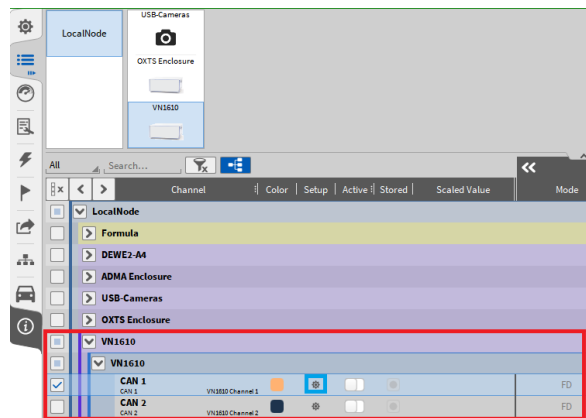
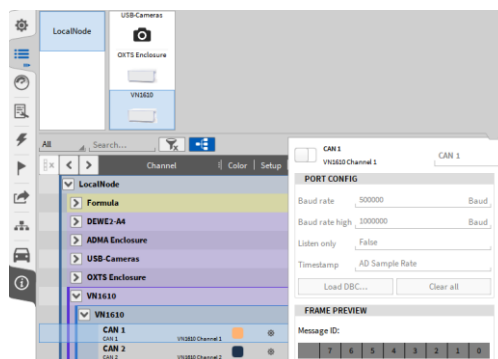

Figure 14-4: Channel List with Vector VN hardware included
Figure 14-5: CAN-FD channel settings
- Open the OXYGEN Channel List. The Vector Hardware channels will be visible in the section VNxxxx of the Channel List (marked red in Figure 14-4).
- Click on the Gear button to open the Channel settings (marked blue in Figure 14-4). The Baud rate and additional settings can be changed here and the dbc file can be loaded (see Figure 14-5).